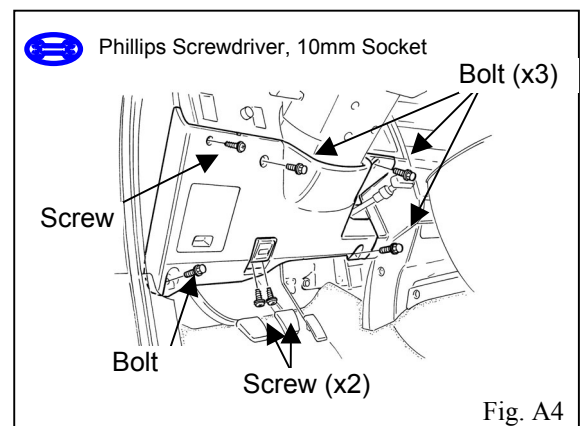

Fig. A4
4. Remove the hood release lever. (Fig. A4)
5. Remove the lower dash cover. (Fig. A4)